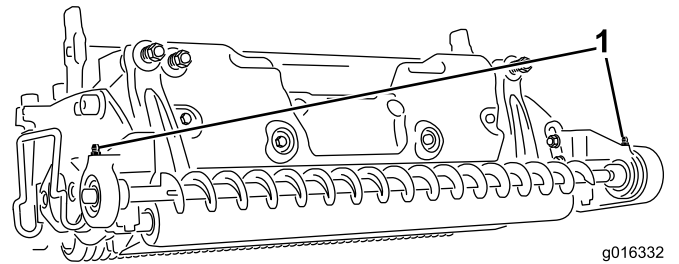

Figure 23
15. Lubricate the bearing housing grease fittings with No. 2 lithium grease; see Figure 23.